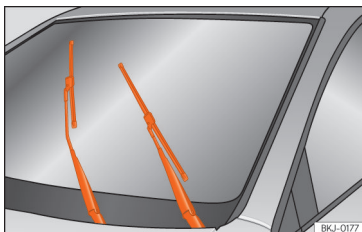

Fig. 80 Wipers in service position.
- Turn the ignition on and off and then (within approximately 9 seconds) push the windscreen wiper lever down (short wipe). The windscreen wipers will move to the service position »» Fig. 80.